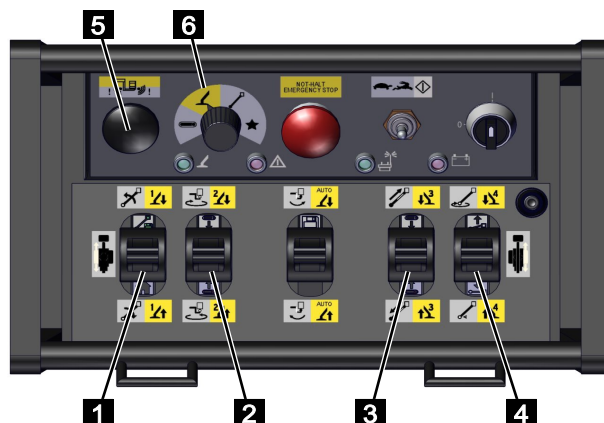

Fig. 135
4. Set the function selector to [bracing function] (yellow) (Fig.135/6).
- Press and hold the collision button (Fig.135/5).
- Use the control levers (Fig.135/1, 2, 3 and 4) to move the desired outrigger(s) as shown in the following table.